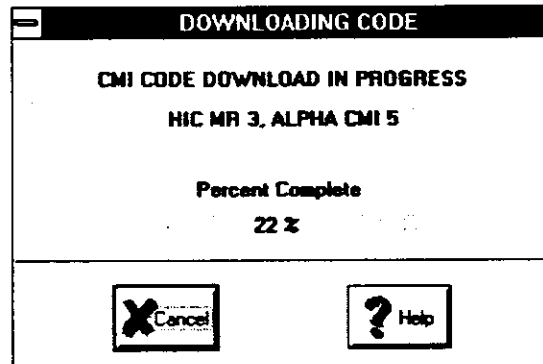

Figure 4-2. DOWNLOADING CODE Dialog
- i. The DOWNLOADING CODE dialog will appear as shown in Figure 4-2. The message will indicate which CMI is being downloaded and the percentage of completion. The example below shows software downloading to Alpha Sector CMI 5 on HIC 3 in the Main Rack.